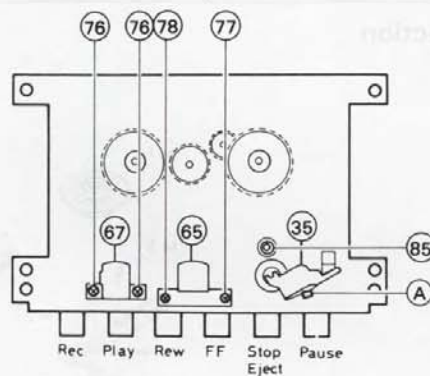

Fig. 7-17
■ Recording/playback head (65) and Erase head (67) (Fig. 7-17)
- 1) Remove two screws (71), (78) retaining the recording/playback head (65).
- 2) Remove two screws (76) retaining the erase head (67).
■ Pinch roller Ass'y (Fig. 7-17)
■ Flywheel ass'y (44) or (43) (Fig. 7-17)
- 1) Remove the poly washer (85) securing the capstan shaft.
- 2) Pull out the flywheel ass'y (44) or (43).